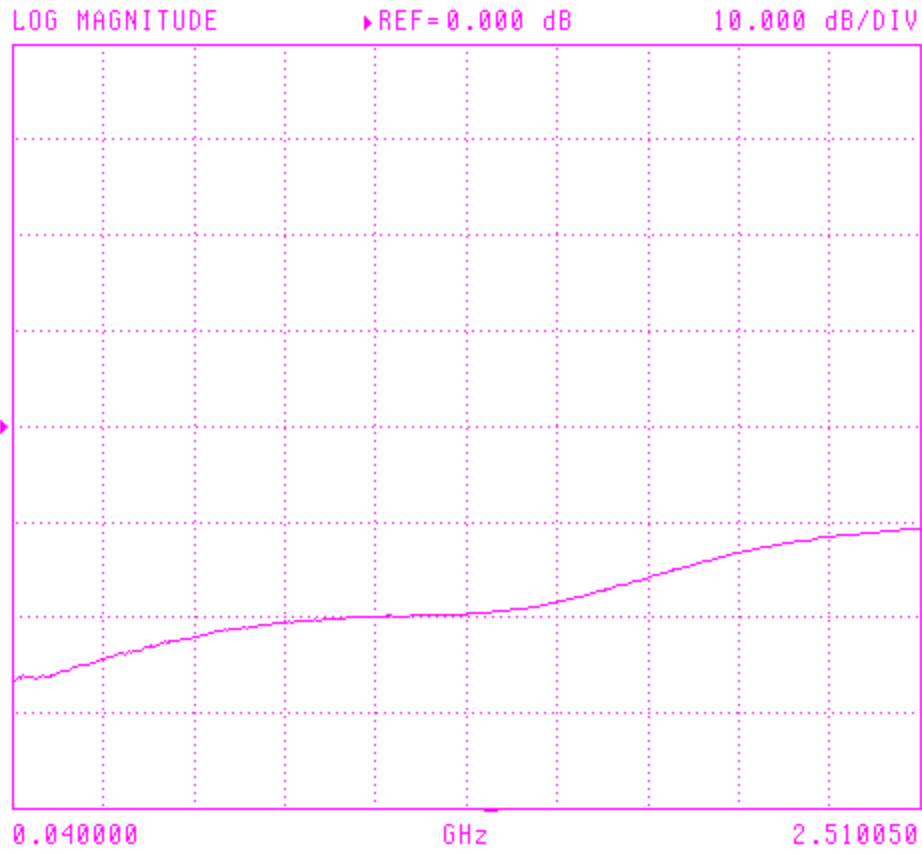

Figure 6
- Figure 6 : Return Loss Common Port
Common Port Return Loss	Fig. 6